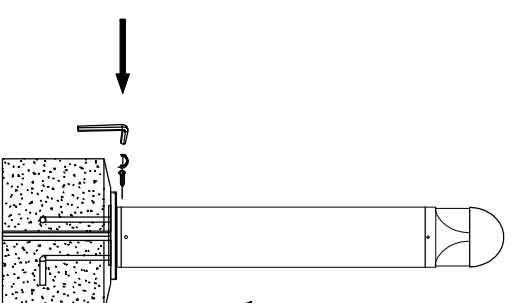

Figure 7
- Figure 7 - Stand fixture up vertically to attach to base mounting plate. Make sure to align set screw holes with threads. Re-insert three hex screws and tighten appropriately.